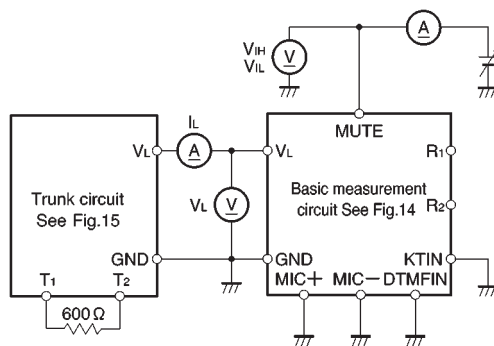

Fig. 16 DC characteristics measurement circuit
| Line voltage (20) | | | V _{L20} | 2.8 | 3.3 | 3.8 | V | 20 | 1 | 2 | 2 | | Fig.16 |
| Line voltage (120) | | | V _{L120} | 4.5 | 7.4 | 9.0 | V | 120 | 1 | 2 | 2 | | Fig.16 |
| Input high level voltage | | | V _{IH} | 1.3 | — | — | V | 40 | 2 | 2 | 2 | | Fig.16 |
| Input low level voltage | | | V _{IL} | — | — | 0.8 | V | 40 | 2 | 2 | 2 | | Fig.16 |
| Input low level current | | | I _{IL} | 20 | 39 | 60 | μA | 40 | 2 | 2 | 2 | | Fig.16 |